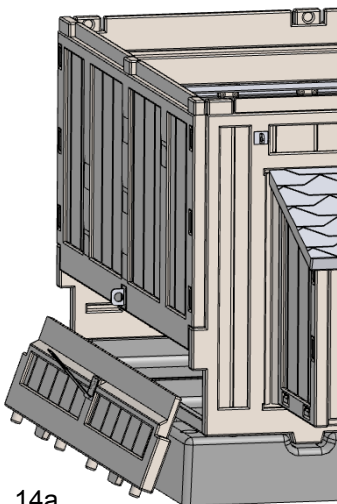
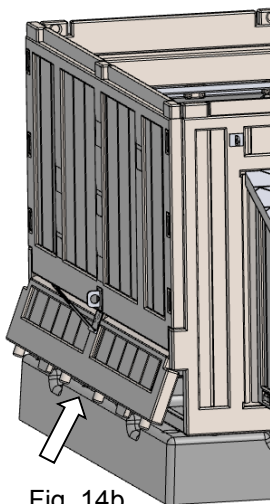
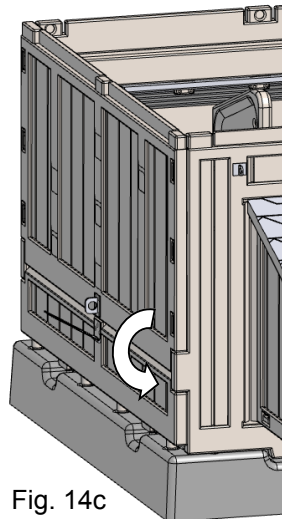

Fig. 14a
Fig. 14b
Fig. 14c
**Step 14:** Install the Removable Panel by sliding it up, from underneath the Back Wall (Fig. 14a), until the top of the Removable Panel is to the inside of the bottom of the Back Wall (Fig. 14b). Rotate the Removable Panel until it is vertical and the pegs on the bottom of the Removable Panel are aligned with the holes in the Coop Base (Fig. 14c). Slide the Removable Panel down, inserting the pegs into the holes, and close the hasp over the hasp eye. (Fig. 14d)